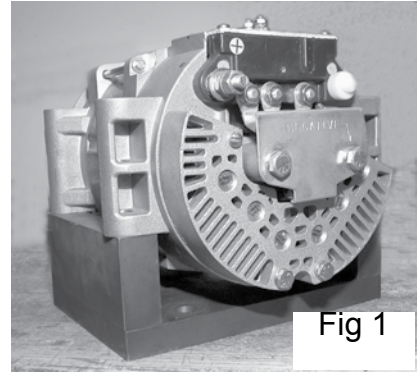

Fig 1
Step 2: On pad mount alternators, place the alternator on a flat surface so the front and rear pads are in line. No rocking should be present between the front and rear pads. See Fig 1